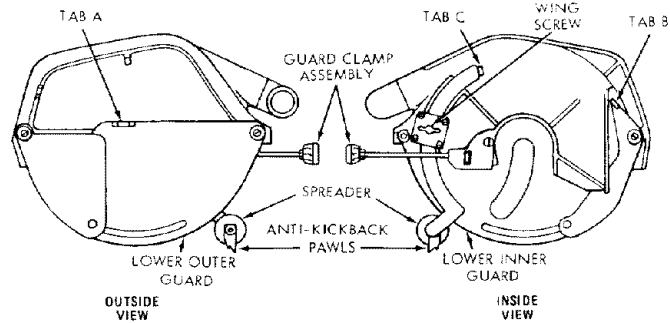

Figure 49
- The lift-tabs (A and B, figure 49) on the guard assembly are provided for use under certain conditions. In order to prevent the inner or outer lower guards from binding (with power off), lift lower guards with tabs (A or B, figure 49) while lowering the saw blade to the table in a bevel position.
- a. Loosen the wing screw and with tab (C, figure 49) position the anti-kickback and spreader assembly to near the bottom of the blade. Tighten the wing screw.
- g. Loosen the wing screw (figure 49) and with tab "C" position the anti-kickback and spreader assembly until the pawls assume the approximate position shown (See figure 52). Tighten the wing screw.
- h. Before making the cut, check the effectiveness of the anti-kickback pawls by sliding the workpiece under the pawls in the direction of feed and then attempting to slide it in the reverse direction – the direction of kickback. If the pawls do not catch, readjust with wing screw and tab "C" (figure 49).